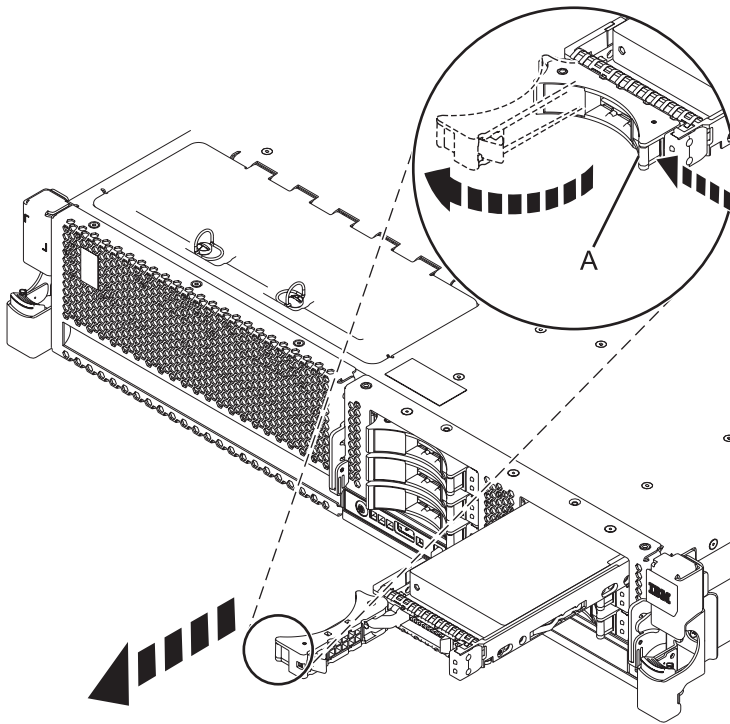

Figure 14. Removing a disk drive from the system
- a. When the identify LED flashes, unlock the drive handle by squeezing it and pulling it out toward you, as shown in Figure 14 on page 23.